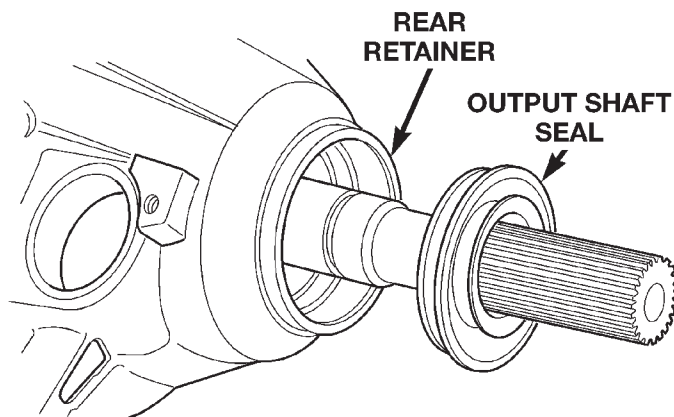

Fig. 10 Rear Retainer Seal
(6) Use a suitable pry tool, or a slide hammer mounted screw, to remove the seal from the rear retainer (Fig. 10).